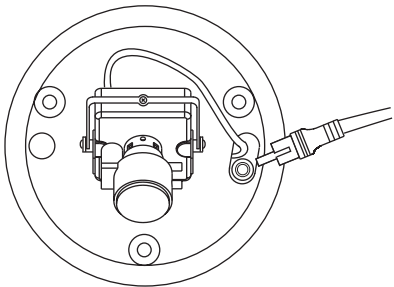

FIG. 4
3. An extra RCA jack for easy installation. Plug the video input of monitor to the RCA jack and adjust focus and zoom. After finished, unplug the RCA jack. Please refer to FIG.4.